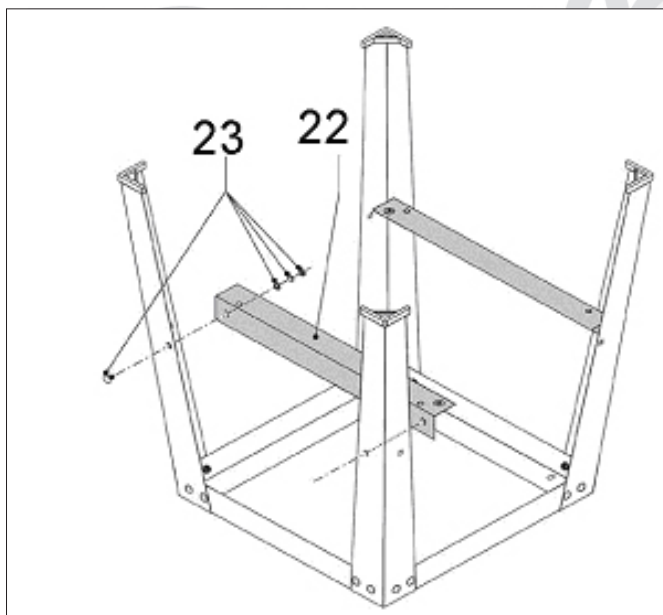

Figure 3
Position a short cross rail (22) in place between two legs, so the screw holes are lined up. Screw the cross rail to the legs using screws, washers and nuts (23), but do not tighten them too much. Repeat this with the other short cross rail as shown in figure 3.